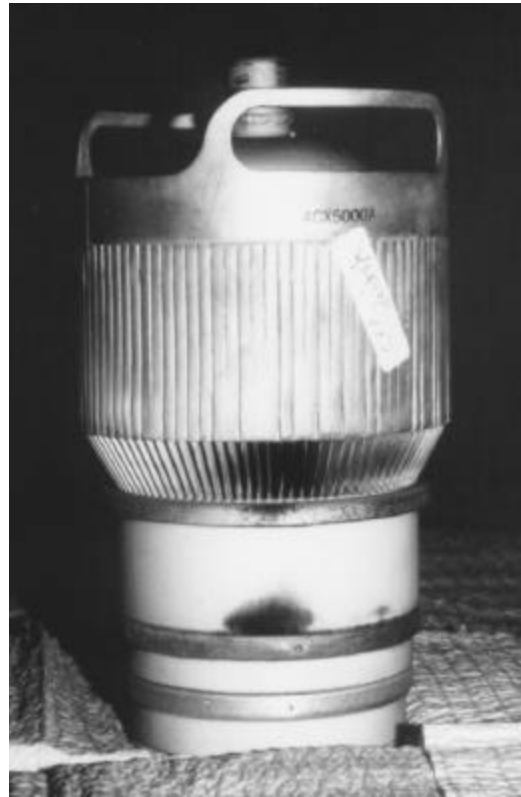

Figure 11. A4CX5000A tubes that appears to have suffered socketing problems.
- Figure 11. A 4CX5000A tube with burning on the screen-to-anode ceramic. Exterior arcing of this type generally indicates a socketing problem, or another condition external to the tube.